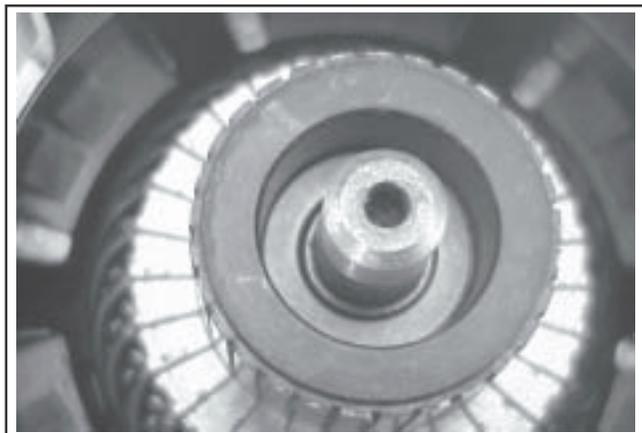

Figure 8-50. Installing Thrust Washer.
9. Install the flat thrust washer onto the commutator end of the armature shaft. See Figure 8-50.